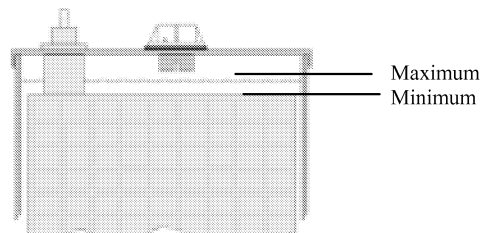

Figure 2 - Electrolyte Level
- Add distilled water carefully to the proper level in cells as required only after they have been fully charged. Do not fill them so high that they bubble over while charging. New batteries require very little addition of distilled water, whereas very old batteries may require additional distilled water two or three times a week. Water (electrolyte) levels drop as batteries are discharged and rises during charge. Adding water when batteries are fully charged will reduce the probability of overfilling. See Figure 2.